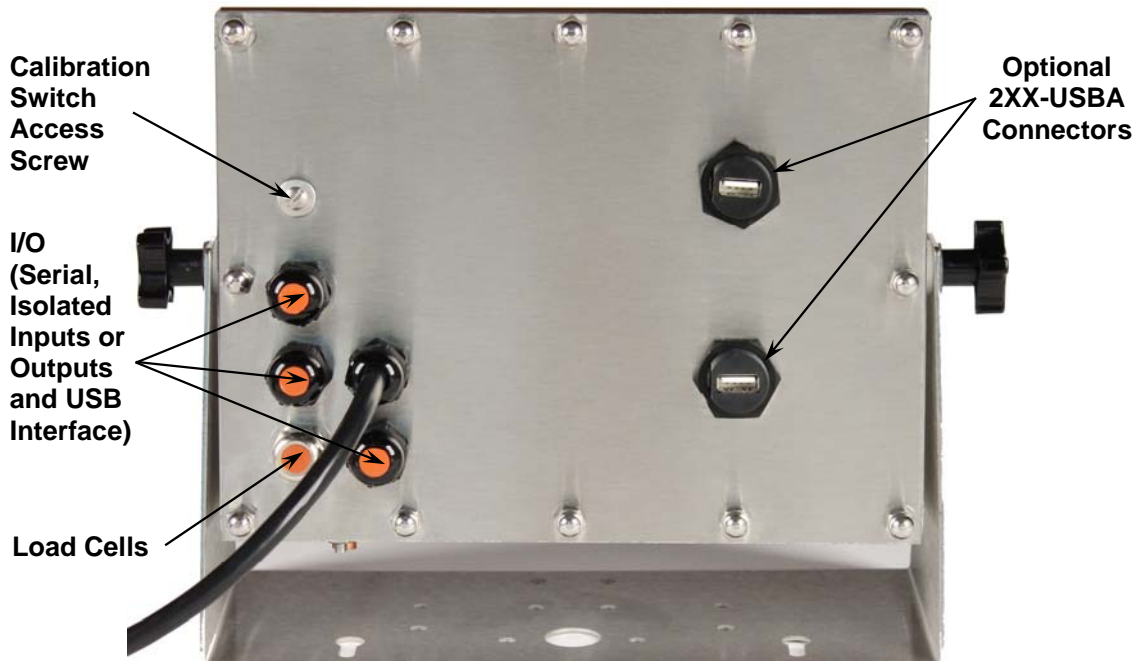
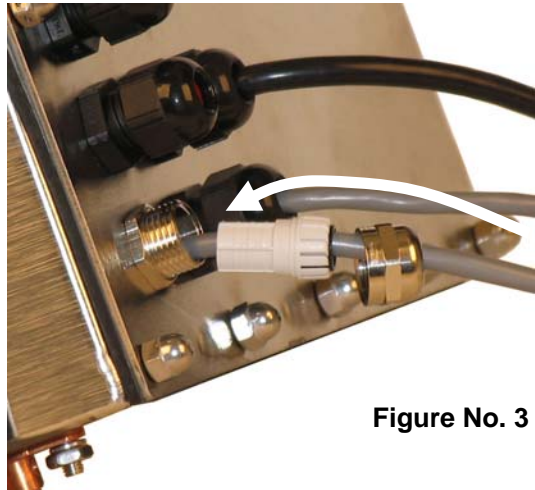

Figure No. 2
Figure No. 3
The load cell cable should be routed through the special metallic gland connector and the shield wire must be connected to this gland connector for grounding and to eliminate RFI. Refer to Figure No. 2 and Figure No. 3 for the appropriate gland connector.
1. Remove the 12 acorn nuts securing the back panel to main housing, and then loosen a gland connector for the load cell cable. Refer to Figure No. 2 for illustration of connector layout.
1. Remove the 12 acorn nuts securing rear panel to main housing and then loosen a gland connector for the serial cable. Refer to Figure No. 2 for illustration of connector layout.